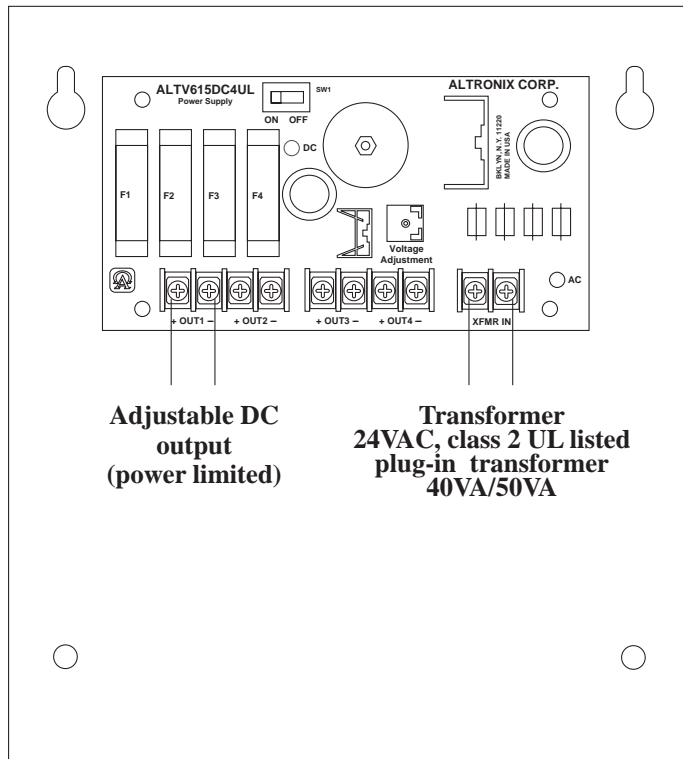

Fig. 1
- Output fuses are rated at 1.0 amp / 250VAC (Fig. 1).
2. Connect 24VAC 40VA or 50VA UL Listed, class 2, plug-in transformer to terminals marked [XFMR IN] (Fig. 1)
4. Switch SW1 (Fig. 1) to OFF position.
6. Connect each DC CCTV cameras to terminal marked [+ OUT1 - to + OUT4 -] (Fig. 1) carefully observing correct polarity.
7. Switch SW1 (Fig. 1) to ON position.